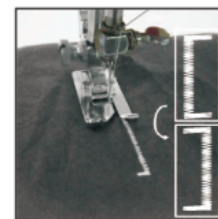

Fig.20
- (5) Raise the presser foot, rotating the cloth for 180° (Fig. 20).